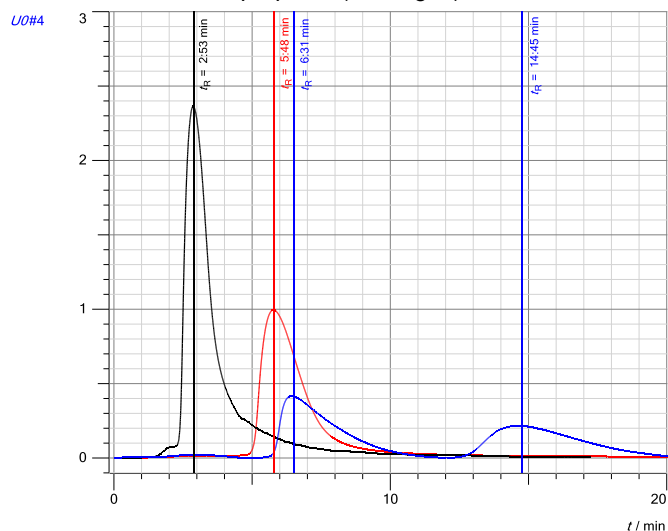

Fig. 3: Chromatograms of the various alcohols. Temperature: 65 °C. Black: methanol, red: ethanol, blue, 1st signal: 2-propanol, blue, 2nd signal: 1-propanol.
The alcohols being investigated elute in the following order: methanol – ethanol – propanol (see Fig. 3).
1. The larger the molecule, the later it elutes from the column. Therefore, methanol elutes before ethanol and the propanols (see Fig. 3).